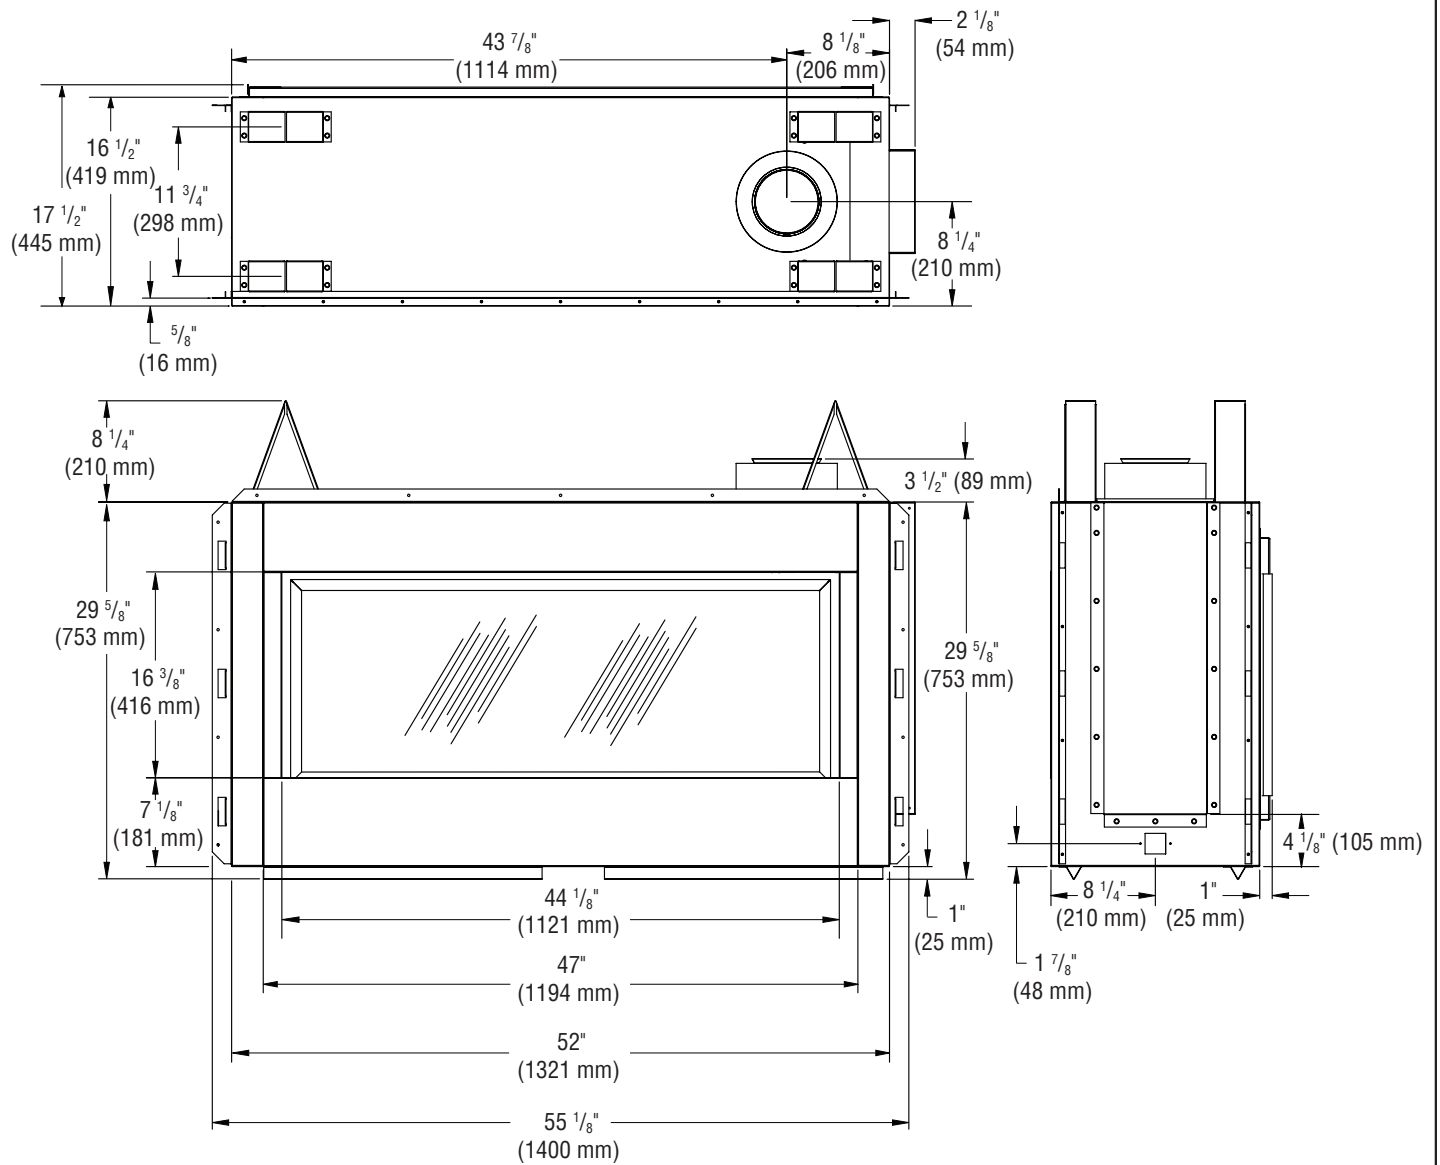

Figure 6 - VeniceLights43 Fireplace Series Dimensions
- If your fireplace is to be installed directly on carpeting, vinyl tile or any combustible material other than wood, it must be installed on a metal or wood panel extending the full width and depth of the fireplace (see Figure 6, page 11).
*Please refer to overall fireplace width (Figure 6, page 11) before rough framing construction.